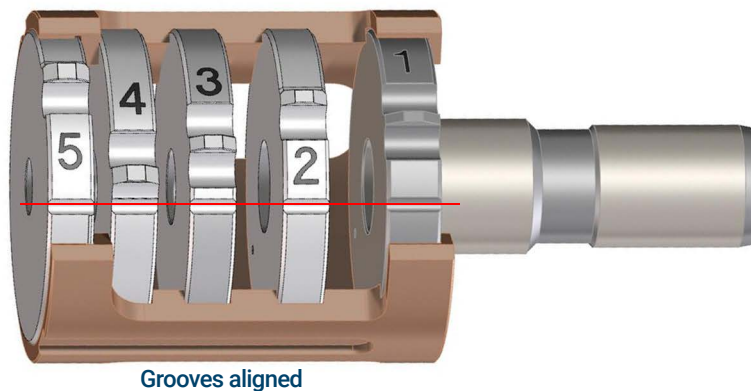

Figure 57. Assembled EI HES lens stack
- 1 Assemble the five lenses inside the lens insulator. (See Figure 57.) The lens number is engraved into the outer circumference of each lens.